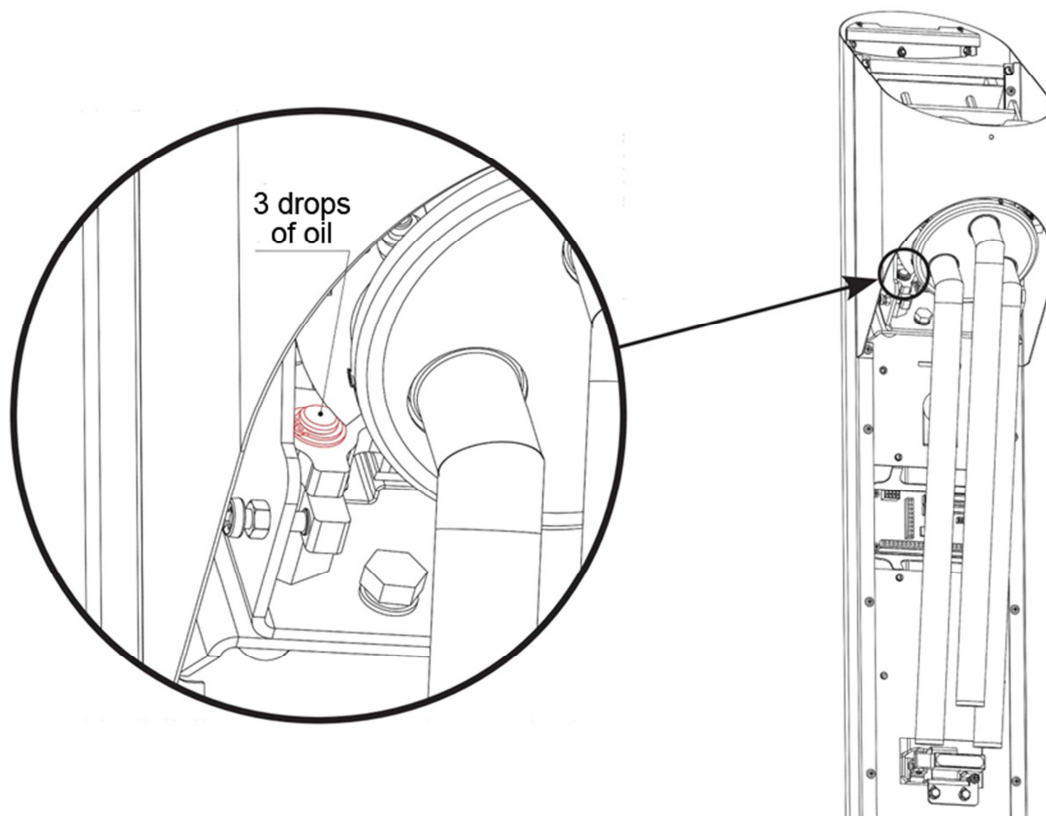

Fig. 11 Central stand of turnstile
5.1. The rotation axis of the stopper unit (Fig. 11).